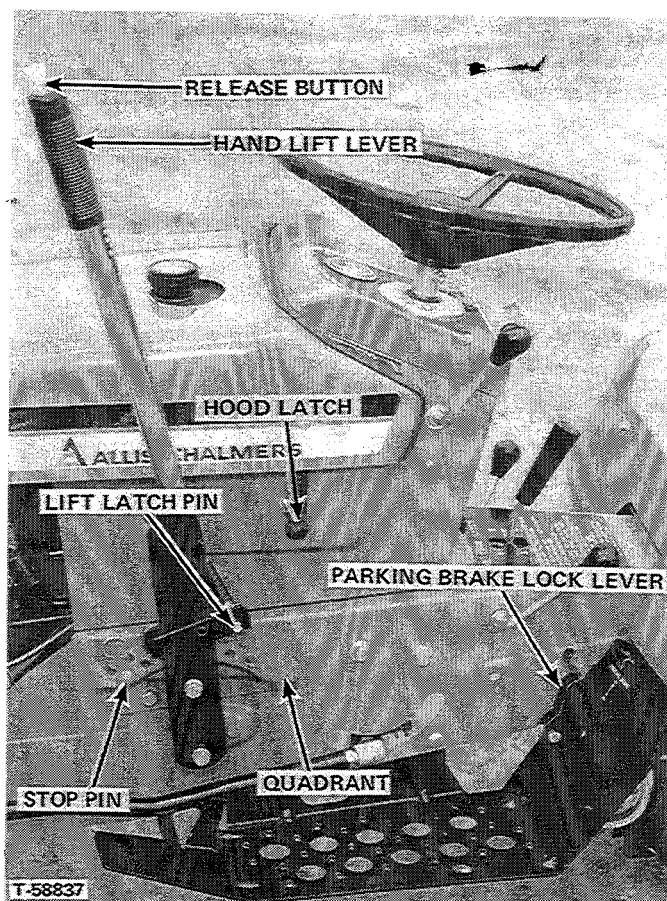
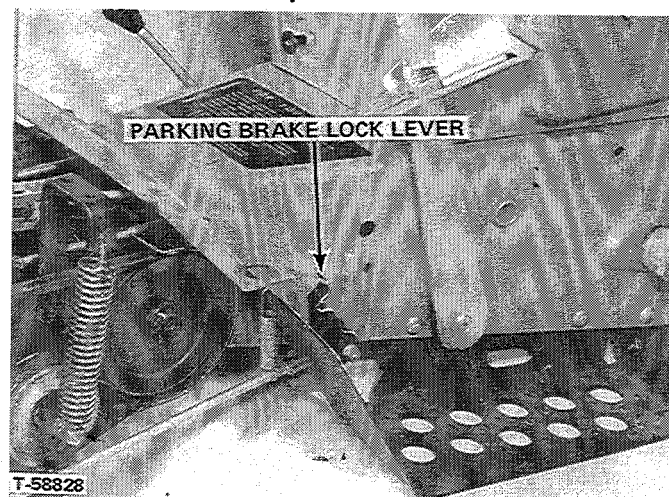

FIGURE 2 - 6 Speed Transmission Tractor
FIGURE 3 - Hydrostatic Transmission Tractor
### 8. PARKING BRAKE LOCK (Figures 2 and 3)
To lock the parking brake pull the parking brake lever up into a vertical position as shown in Figure 3. Lever can be more easily lifted and locked in position if foot brake is fully depressed first. Brake should be locked whenever operator leaves the tractor seat.
**NOTE:** Lock is located on right hand fender on hydrostatic transmission tractors (Figure 3), and on the L.H. fender for shuttle clutch and 6 speed transmission tractors (Figure 2).
### 9. HAND LIFT LEVER (Figure 2)